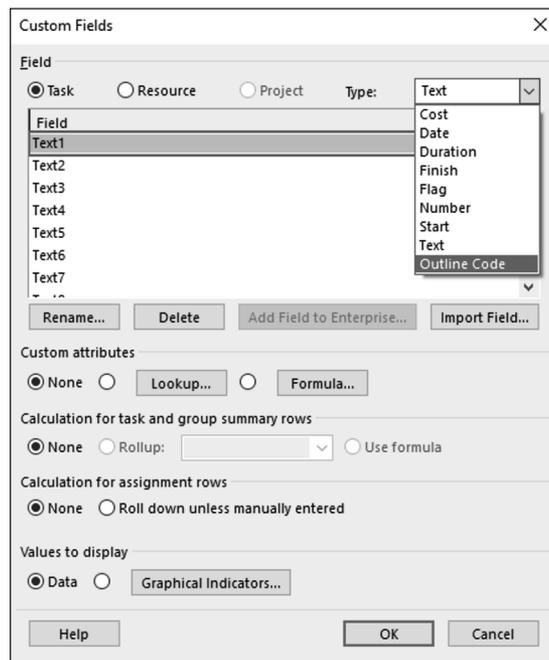

FIGURE 13-12:
3. **Select the type of field you want from the list of options, as shown in Figure 13-12.**